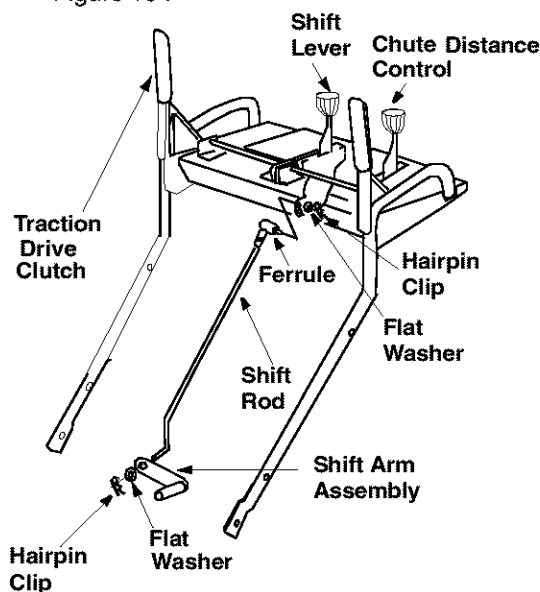

Figure 10
- Place the shift lever in the sixth (6) speed.
- Place the bent end of the shift rod into the hole in the shift arm assembly. See Figure 10. Secure with 5/16 flat washer and hairpin clip from group D of the hardware pack.
- Once the ferrule slides into the hole, turn it counter-clockwise one more full turn and insert it in the hole in the shift lever. For proper positioning of the ferrule and the associated hardware, see Figure 10.
- Secure the ferrule to the shift lever with another 5/16 flat washer and hairpin clip from group C of the hardware pack. See Figure 10.